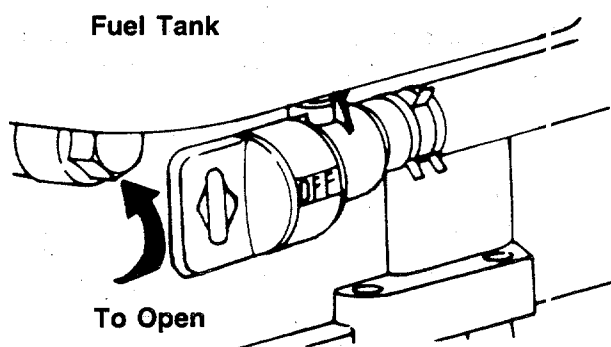
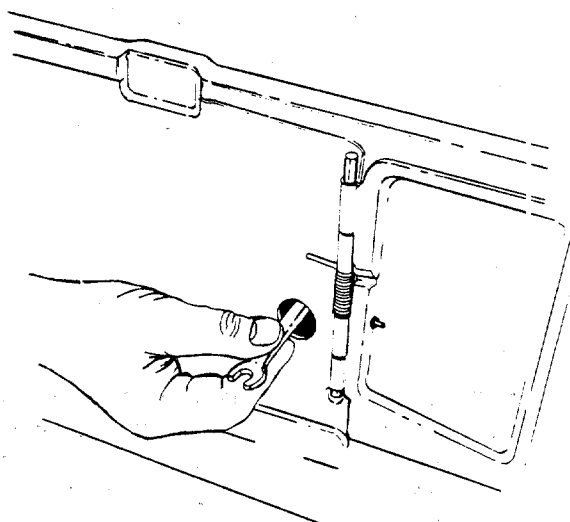

FIGURE 15.
FIGURE 16.
2. The fuel shut-off valve is located beneath the fuel tank. On Model 114, an access hole is provided in the catcher panel. The fuel shut-off valve should be in the open position. See figure 15. Open fuel shut-off valve using a wrench if it is closed. See figure 16.